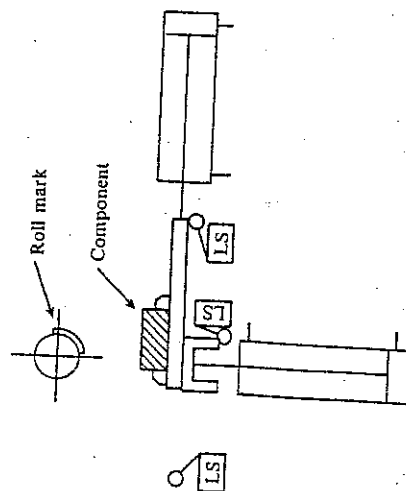

Figure A.28
A.3.11 In a roll mark press the mark, usually a string of characters is formed in relief on the periphery of a roller which is mounted above the machine table as shown in Figure A.28. Components are mounted on the table using quick-release clamps. The table is raised and a